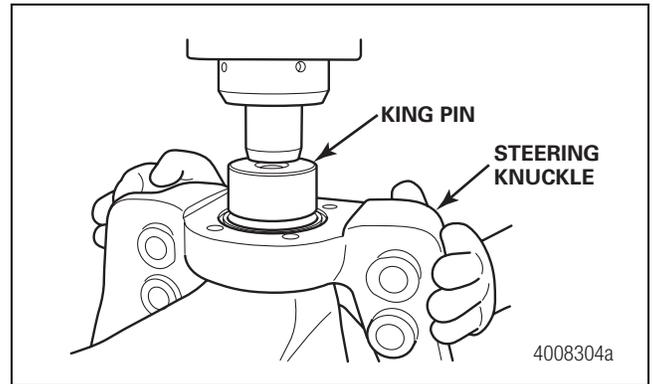

Figure 8.6
8. Use a press and suitable driver to press the king pins through the knuckle and into the housing sockets. The pin is fully seated once it has bottomed out against the housing socket face. Figure 8.6.